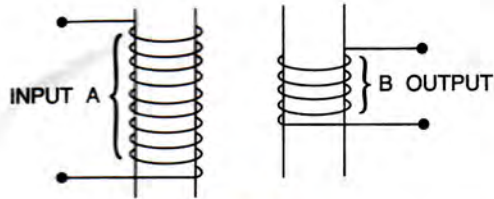

Fig. 10.46
34. (a) Complete the following diagram in Fig. 10.46 of a transformer and name the parts labelled A and B.